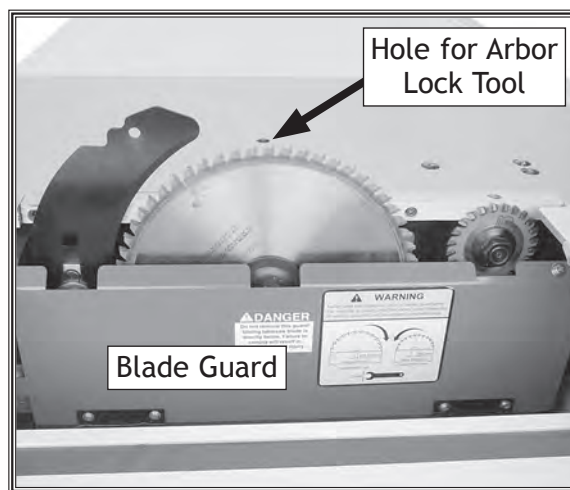

Figure 60. Internal blade guard exposed.
3. Move the sliding table all the way forward to expose the internal blade guard that covers the blades and splitter/riving knife, as shown in **Figure 60**.
5. Insert the arbor lock tool into the hole shown in **Figure 60**, then rotate the blade by hand until the arbor lock tool seats.